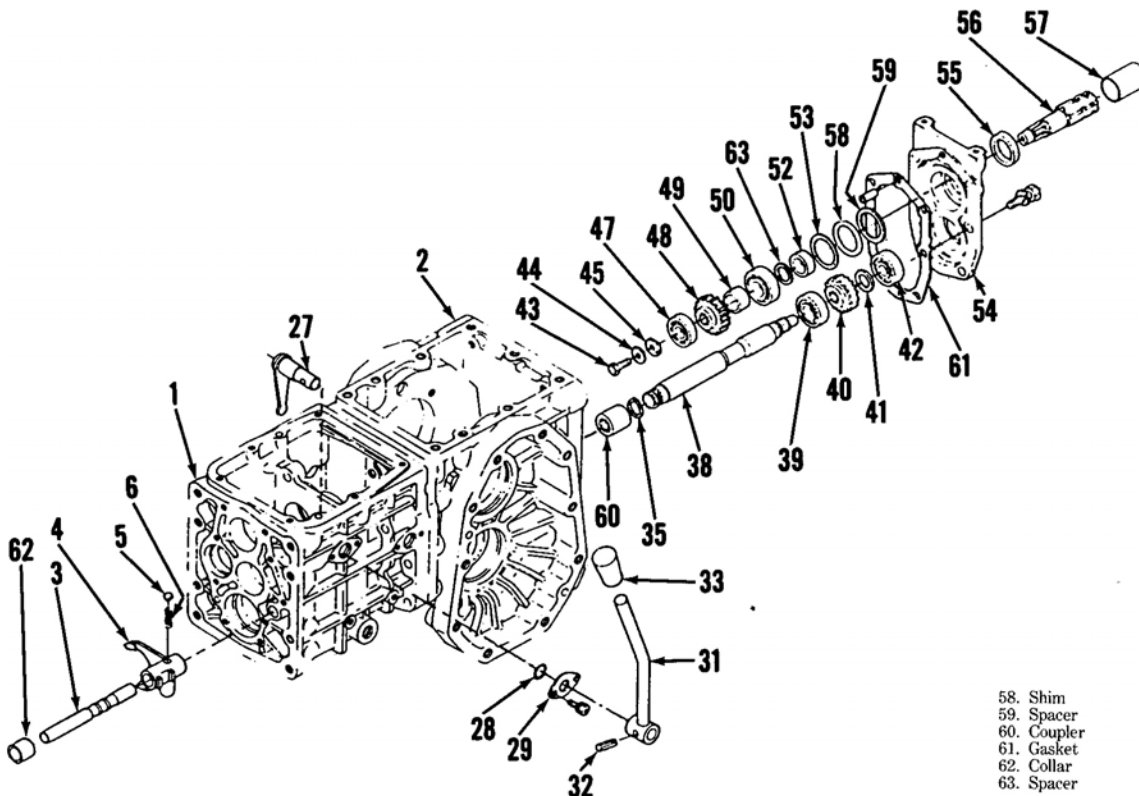

Fig. 89 — Exploded view of pto components used on Models B5100D and B5100E. For identification of parts, refer to legend in Fig. 88 except for the following.
a suitable container. Raise hood and disconnect battery cable from negative battery post. To remove pto components located in center housing, first remove the six cap screws securing rear cover (54—Fig. 89 or Fig. 90) to center housing (2). Using a suitable mallet, lightly tap rear cover (54) to separate components, then withdraw rear cover assembly. Using a suitable puller, extract bearing (42) from shaft end (38). Remove snap ring (41), then withdraw gear (40).
89. R&R AND OVERHAUL. Service to pto components located in gear transmission is outlined in paragraphs 73 and 74. Pto select linkage components are serviced with reference to Fig. 89 on Models B5100D and B5100E and Fig. 90 on Models B6100D, B6100E and B7100D after removal of needed gear transmission components to allow access to shift components.